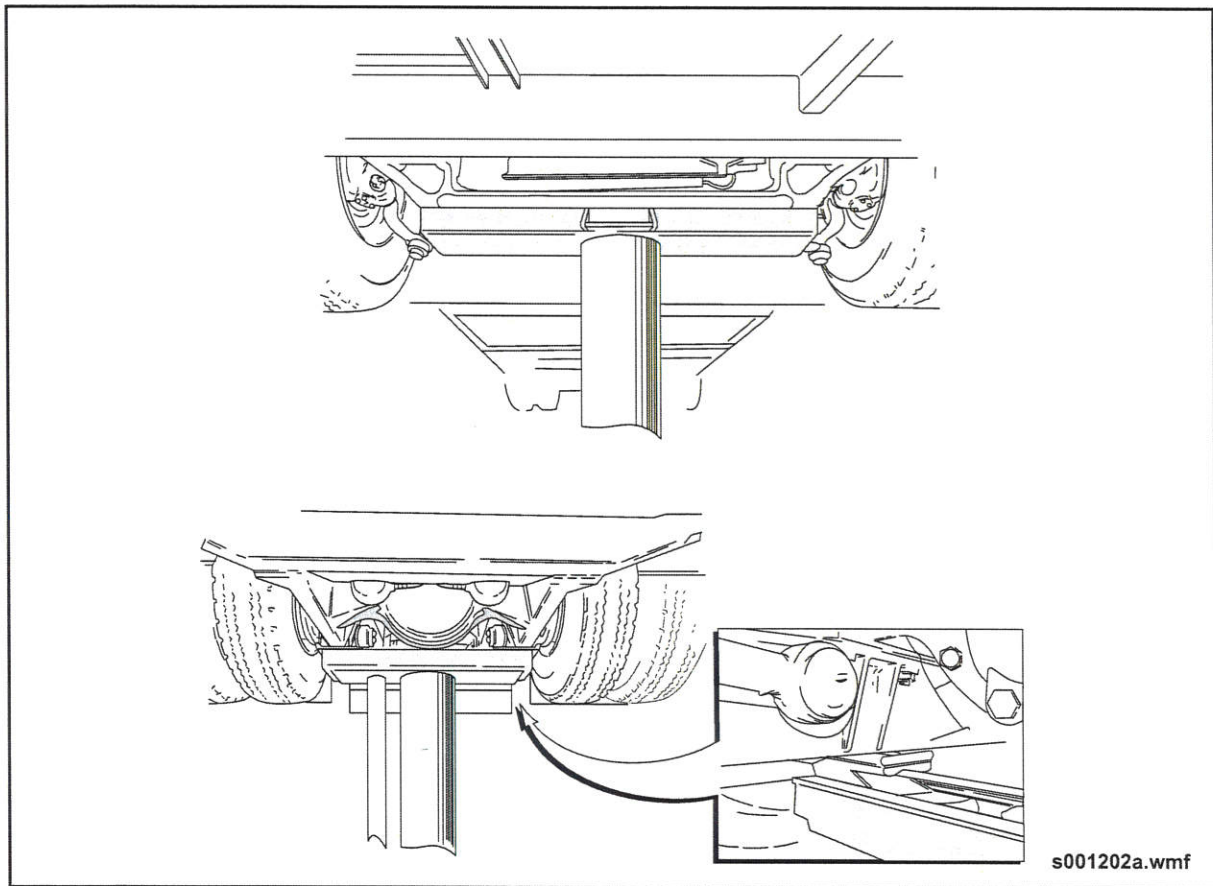

Fig. GI-17: Typical Center Post Hoist
1. Position vehicle over hoist and align hoist posts and adapter pads so these will contact the designated points. See "Fig. GI-17: Typical Center Post Hoist" on page 38.